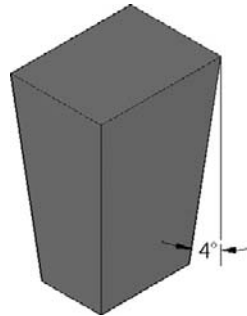

FIGURE 25.19
Step 2. Taper the block on all four sides to 4° , as seen in Figure 25.19.